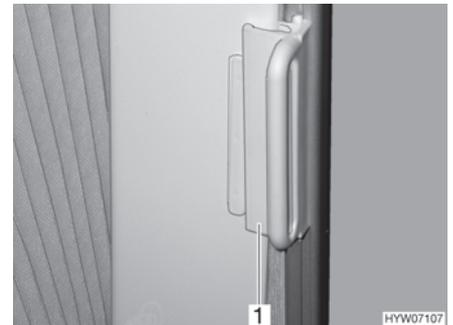

Fig. 38 Lock for Roman shade
- Push the handle (Fig. 38,1) onto the cap. The Roman shade is secured.